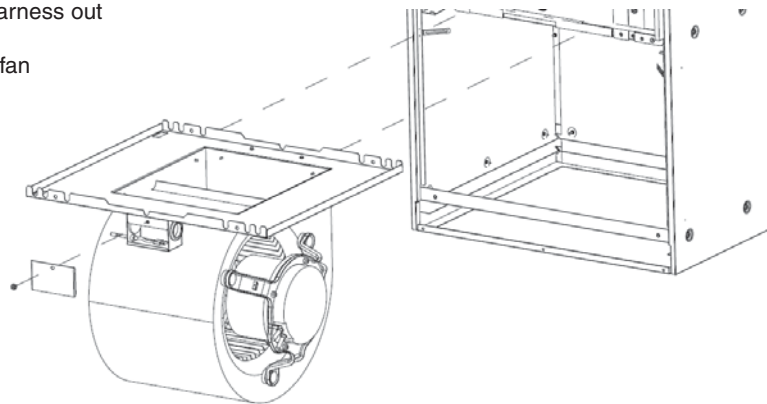

Fig. 12
3. Remove the door that covers the small enclosure attached to the fan assembly (Fig.12).